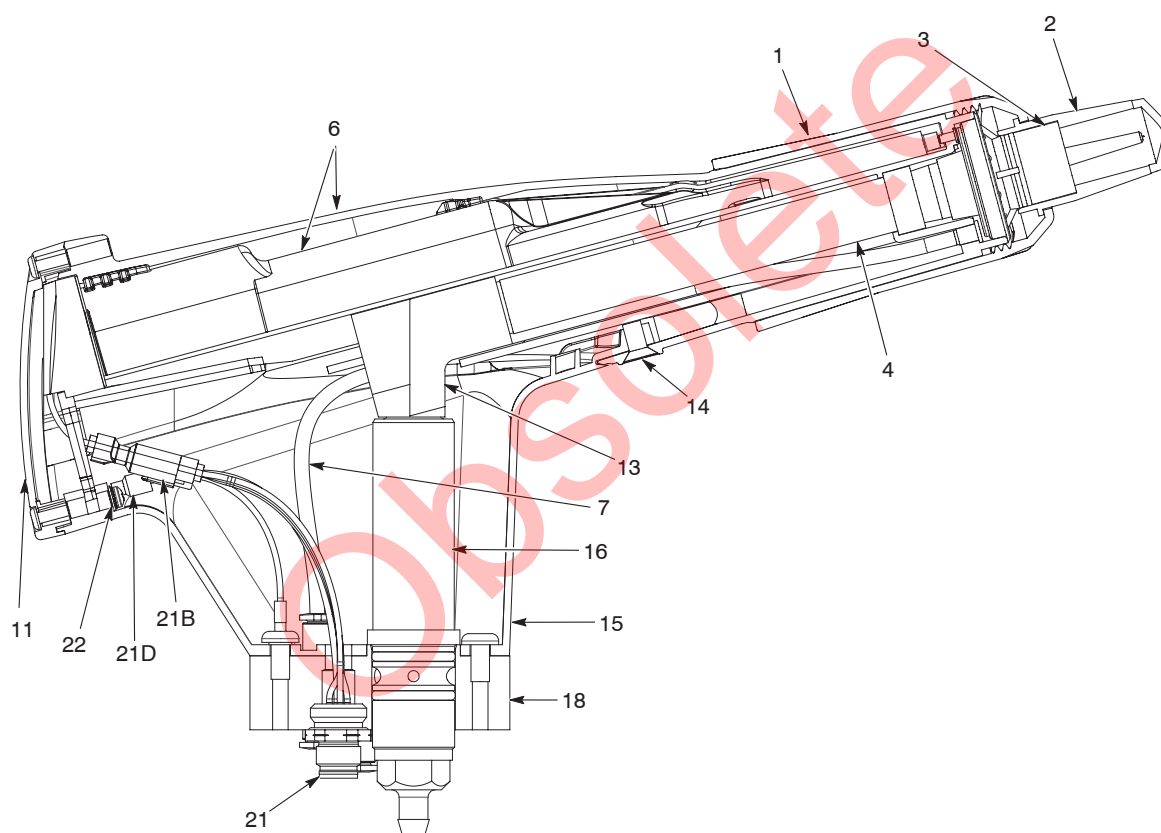
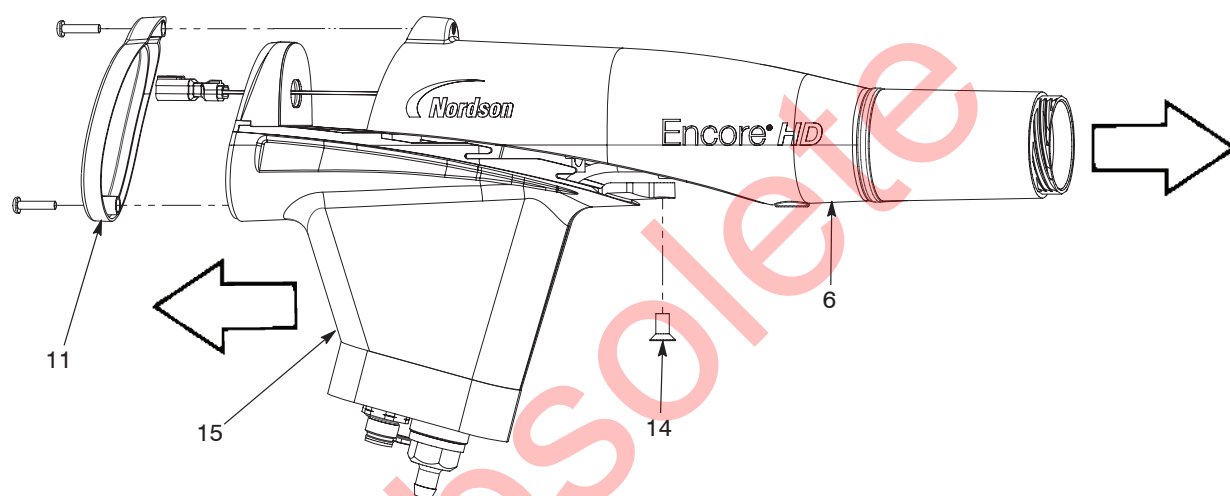

Figure 5-1 Section View of Spray Gun (item numbers in this section match item numbers in parts list)
Figure 5-2 Spray Gun Body Disassembly
1. See Figure 5-1. Unscrew the nozzle nut (1) and remove the nozzle (2) and electrode assembly (3) from the spray gun.
2. Remove the end cap (11) by removing the two M3 screws.
4. See Figure 5-2. Remove the black nylon screw (14) from the gun body.
5. Grasp the lower body (15) in one hand and the gun body (6) in the other. Press the thumbs of each hand together while pulling carefully in opposite directions to separate the gun body from the lower body. The air wash tubing from the filter assembly (7) will prevent a complete separation; leave it connected unless it must be replaced.
5. See Figure 5-1. Install the end cap (11), securing it to both the lower body and gun body with the M3 screws.
6. Install the electrode assembly (3) into the the end of the outlet tube at the front of the gun body. Make sure the electrode wire is not bent or broken.
7. Install the nozzle (2) on the electrode assembly, making sure the keys in the electrode assembly slide into the slots on the nozzle.
8. Install the nozzle nut (1) over the nozzle and rotate clockwise to secure.